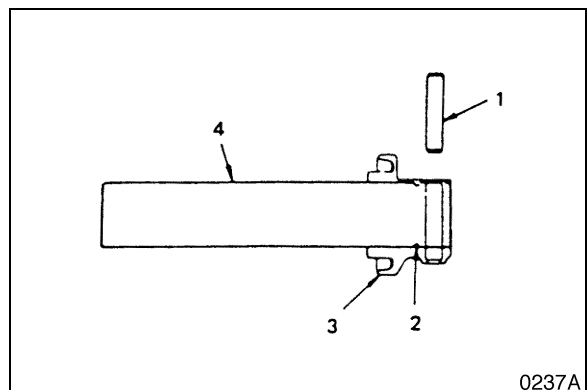

Figure 34
3. Align collar (3, Figure 34) and axle (4) pin holes and pin (1) the collar.